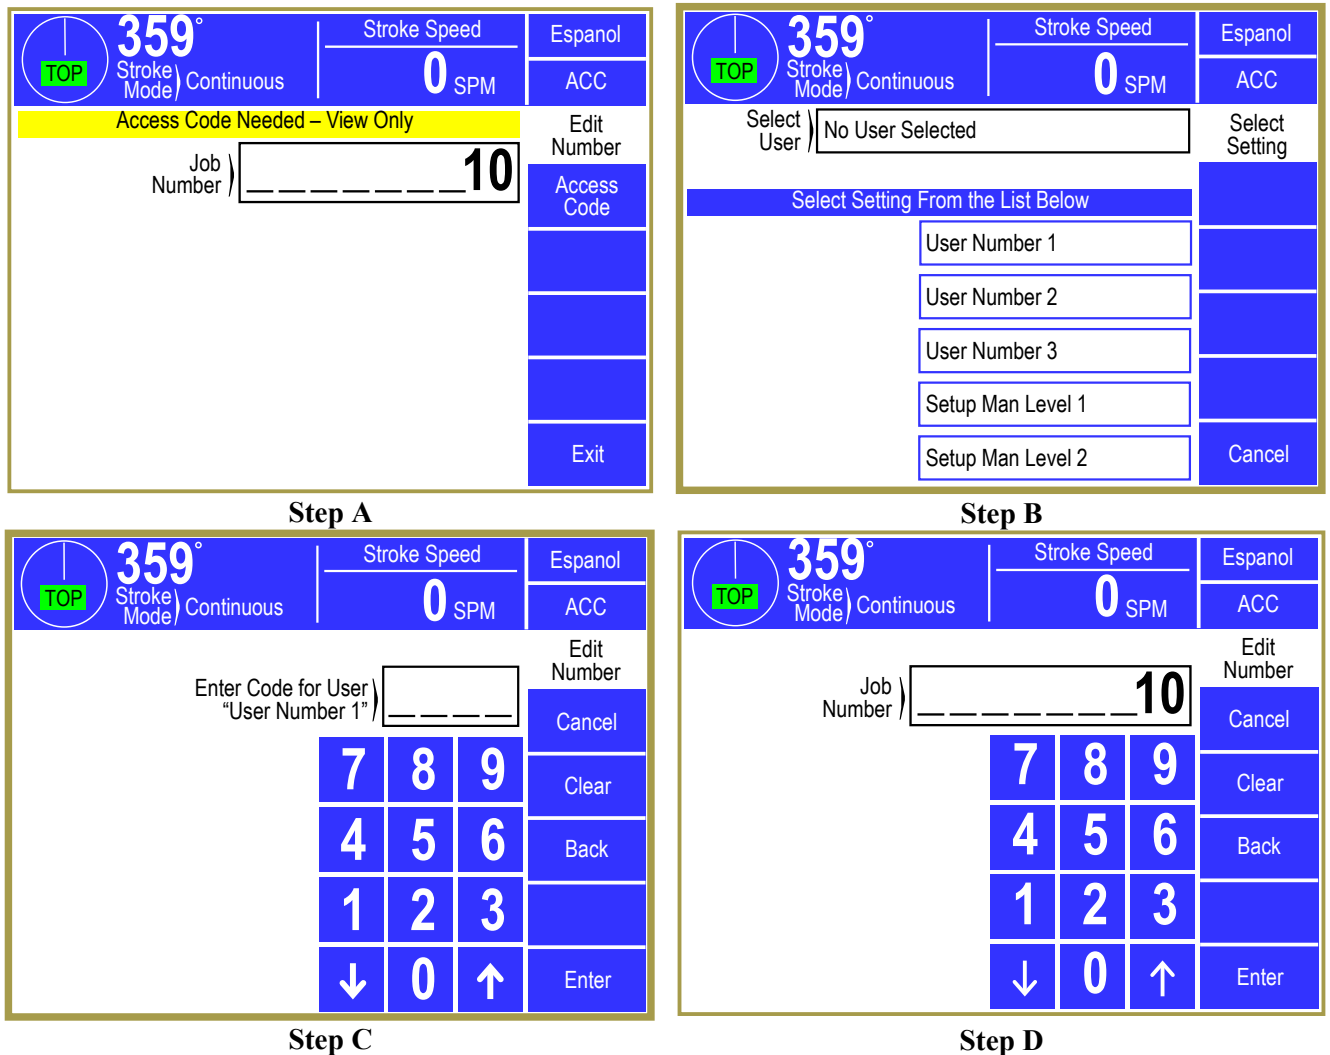

Figure 6: Example Password Entry Sequence
Figure 6 displays a typical password entry sequence. This example shows the steps necessary to change the Auto Single Stroke time. This is typical for password entry for all restricted items.
- Step B:** A list of users that have access to this restricted item will appear. In “Step B” of Figure 6, 5 of the 16 possible users have access to this restricted parameter. The system may have several more users, but the 5 users listed on the screen are the only users that have access to Auto Single Stroke time. The user must select his user name (even if there is only one user name displayed).
- Step C:** The display will show the selected user name and request the user password as shown in “Step C” of Figure 6. The user must enter the correct password and then press the **Enter** key.